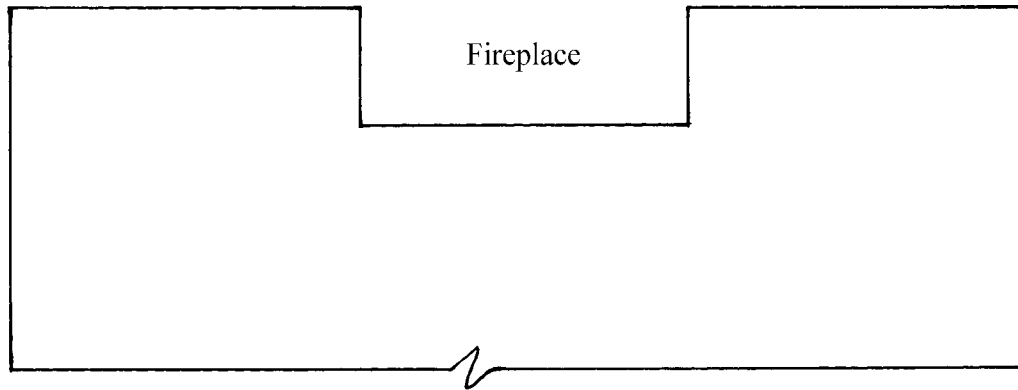

Fig.9
20. (a) Figure 9 shows a plan view of a proposed upper floor with a fireplace opening. Using single lines, indicate on the drawing, the **Trimmer**, **Trimming** and **Trimmed** joists at the opening.